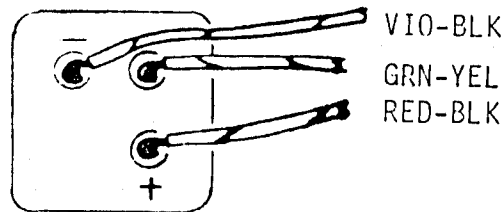

Fig. 5. DC Power Receptacle (as viewed from the front of the instrument).
- () 4. Dress the 3-wire cable from the Power switch assembly through the 0.5-inch plastic grommet in the rear sub-panel. Solder the three-wires to the DC Power receptacle as shown in Fig. 5: